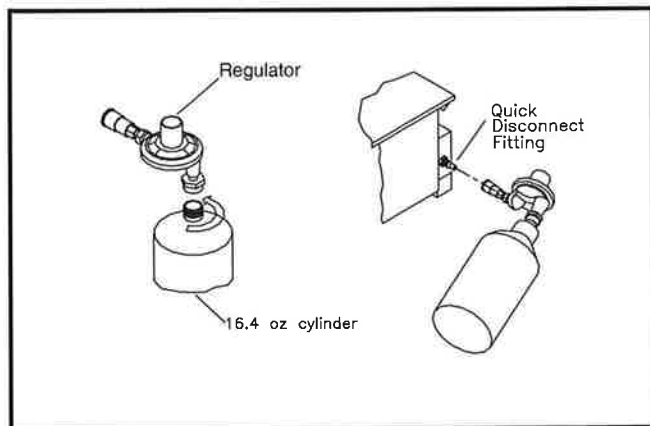

Figure 2 Disposable Cylinder and Connection
4. Gently thread the 16.4 oz. disposable LP Cylinder onto the Regulator, making sure not to cross thread the connection. (See Figure 2, Page 6) **DO NOT FORCE THE CYLINDER ONTO THE REGULATOR.**
5. Connect the regulator with the 16.4 oz. LP Cylinder attached to the exposed quick disconnect fitting at the rear of the Cherokee FR. (See figure 2, Page 6) See Quick Disconnect Instructions on Page 6.